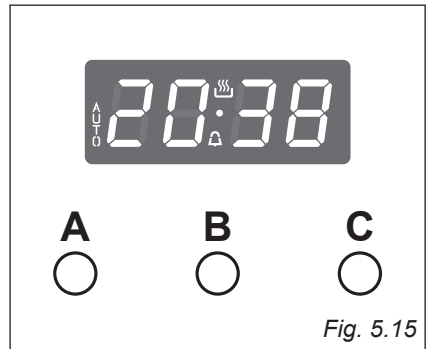

Fig. 5.15
**MODELS WITH CLOCK and TIMER with “TOUCH CONTROL” KEYS** (fig. 5.15)